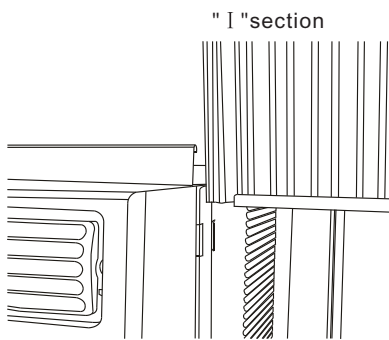

Fig.2
B. Slide the free end "I" section of the panel directly into the cabinet as shown in Fig. 2. Slide the panel down. Be sure to leave enough space to slip the top and bottom of the frame into the rails on the cabinet.